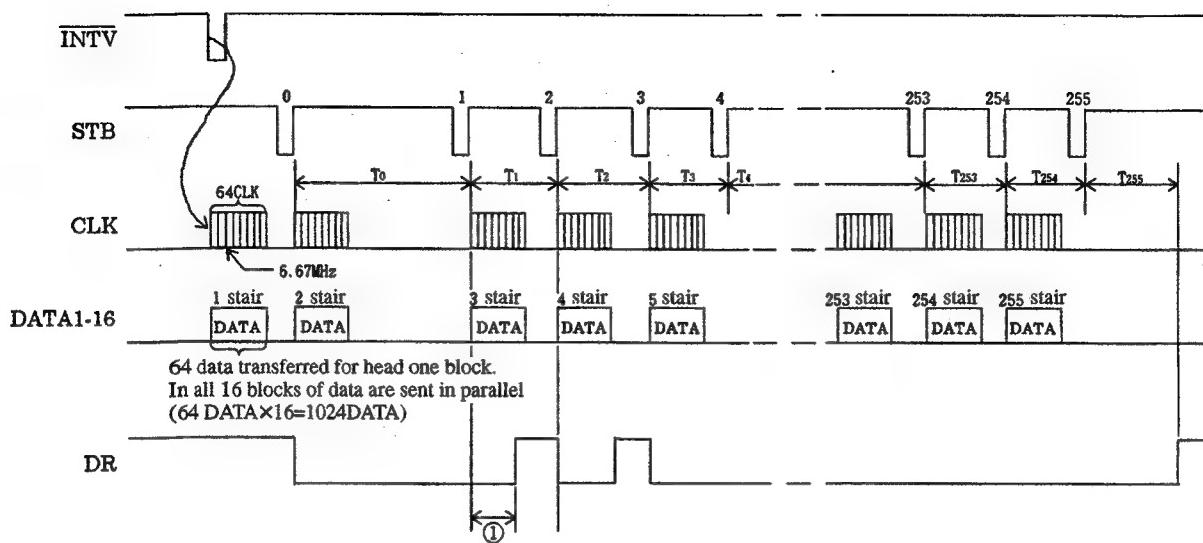

Fig. 4-9. Stair generation
- (1) The picture data is recorded one line by one line(every INT-V) in video memory IC302 and 303 or added SIMM at CN303. The data for one line is caught in internal line memory IC301 by controlling IC301.
- (2) The data caught in line memory is inputted to the stair generation circuit in IC301. The generation circuit converts the 8-bit data to stair data of 1 to 256 and outputs. In case 8-bit data is 128, 1 to 128 stairs of DATA 1 to 16 is outputted data "H" against the head. After 129 stair, it outputs the data "L". (Fig.4-9.)
- (3) The data outputted to the head from the data generation circuit is synchronized with CLK and transferred to shift register section.
- (4) When the "1"STB pulse is inputted by IC301, the 1st data is transferred to the latch section and the 2nd stair data is inputted to the shift register section. At the same time, DR pulse goes "L" and the "H" data among the data input as the first stair data switches on the corresponding output stage transistors, heating up the corresponding resistors. The "L" data switches OFF the corresponding output stage transistors so those resistors do not heat up. This operation is carried out 256 times. If "H" data is sent the 1 through 256 times, the resistors generate heat the entire time and the printing is the blackest possible. If the data is only high until the 1 through 128 times, the printing is an intermediate stair. This is how intermediate stairs are generated by sending high data a certain number of times and generating heat in the resistors that many times.
- (5) Thus, by controlling the time until the next data is transferred to the latch, the darkness of intermediate stairs can be achieved simply. In other words, intermediate stair darkness can be controlled by changing the STB intervals, T1,T2,T3,T4,T5,---T256. Specifically, IC301 matches the intervals T1 to T256 to the paper's gamma characteristic. This is called gamma characteristic control.
- (6) If the DR pulse is also controlled as described in 4-6-3, even fine stair can be expressed.